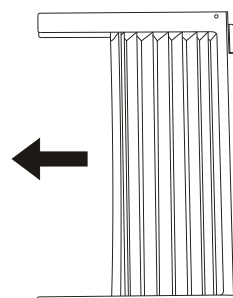

Fig.1
A.Place unit on floor, a bench or a table. Hold the Accordion Panel in one hand and gently pull back the center to free the open end. See Fig.1